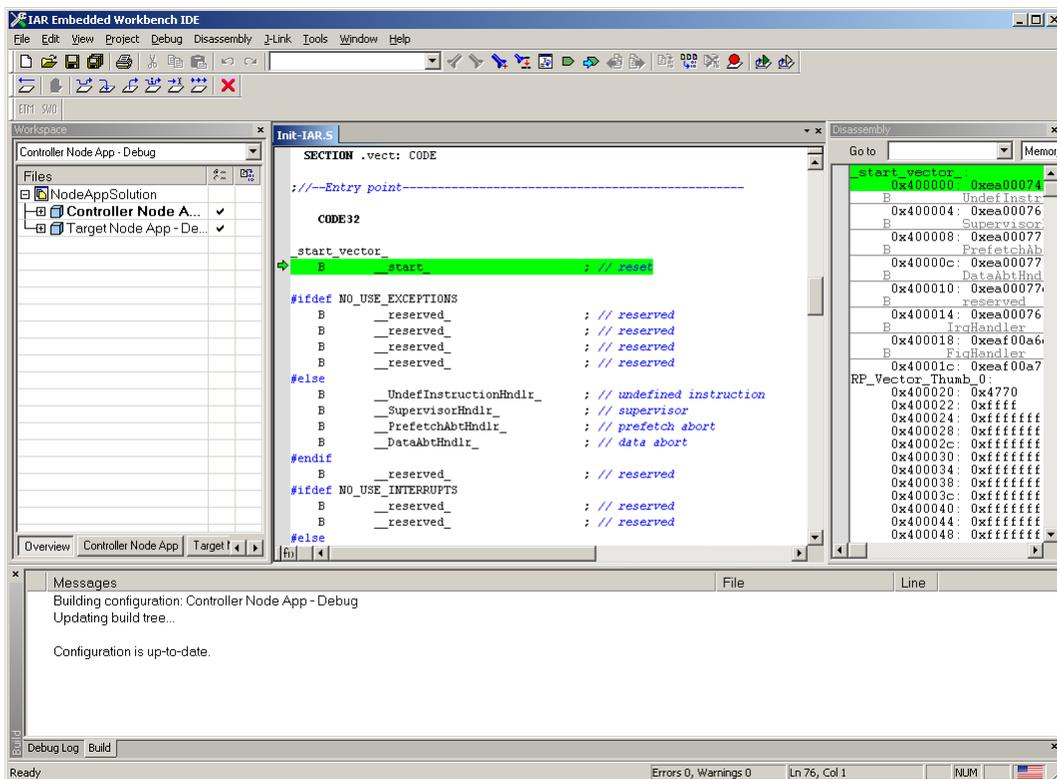

Figure 2-25. IAR EWB Debugging Window
5. Wait until the board’s FLASH memory is written. When this is complete, the IAR EWB debugging window appears as shown in Figure 2-25.